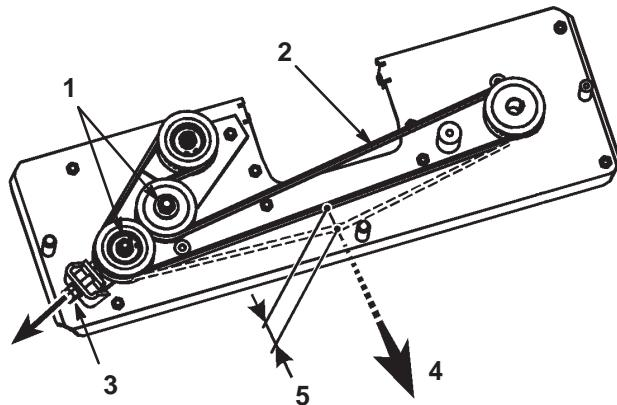

Figure 40
- Loosen the 2 hex nuts on the idler pulley (Fig. 40).
- Adjust the M10 nut until the belt flexes 5 mm with 30 N of force (Fig. 40).